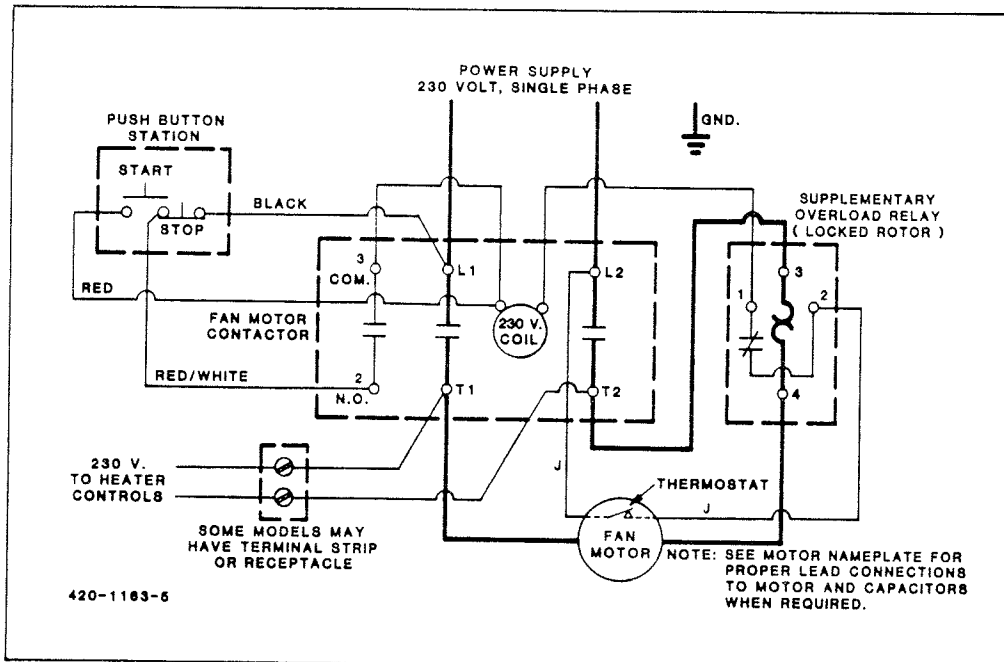
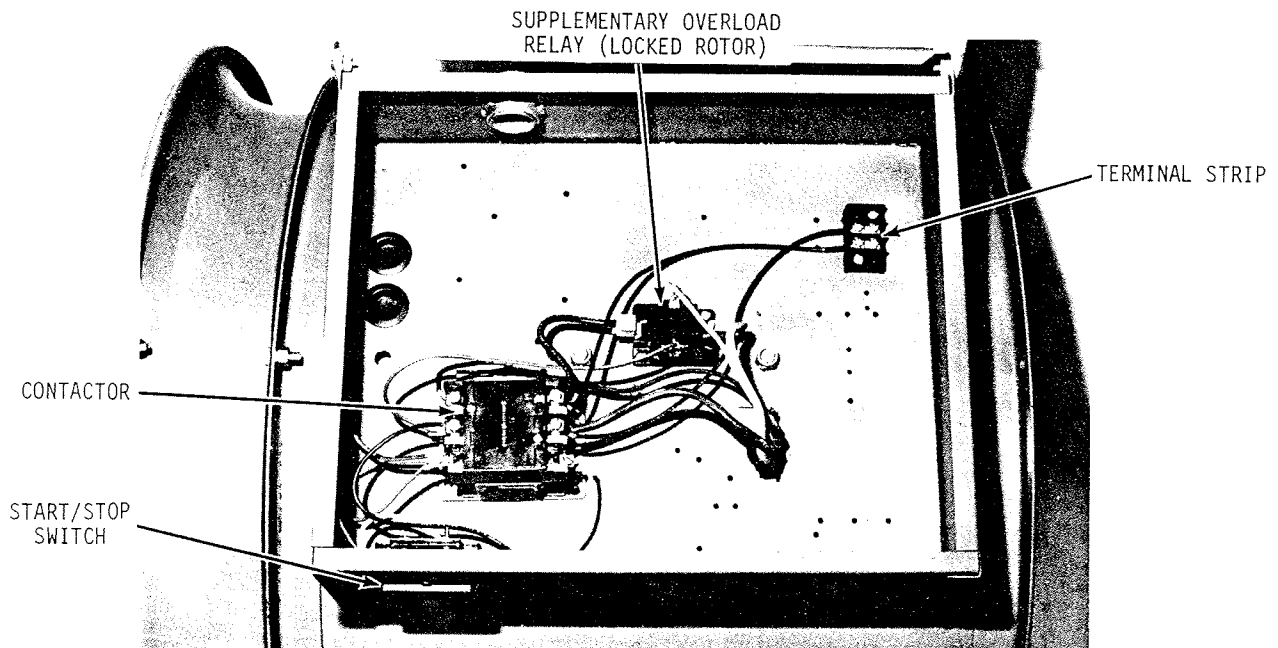

FIG. 2 - MOTOR CONTROL WIRING DIAGRAM - 1-PHASE 230 VOLT
FIG. 6 - TYPICAL 524SH AND 724SH CONTROL BOX - 1-PHASE 230 VOLT
1. Fan models with optional motor controls are fully equipped with a magnetic motor starter, motor overload protection and a start-stop switch. In wiring these models for use, the power supply leads must be connected to the starter input terminals (marked "L"), as shown in Figures 2 thru 5. Also refer to Figures 6 and 7. Connect power supply wires to appropriate terminals.
1. With main electrical power shut-off, open control box cover. Inspect for moisture, rodent damage, accumulated foreign material and loose terminal connections. Remove foreign material present and tighten all loose terminal connections. Replace any damaged or deteriorated wiring. See Figures 6 thru 8.